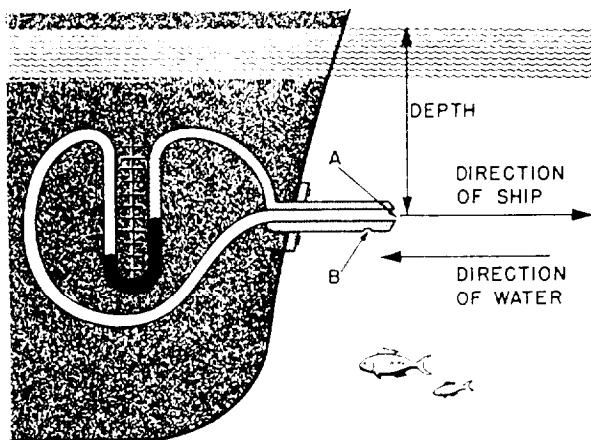

figure 10-4.-A pitometer log.
Figure 10-4 shows a schematic drawing of a pitometer log. It consists of a double-wall tube that sticks out forward of the ship’s hull into water that is not disturbed by the ship’s motion. In the tip of the tube is an opening (A). When the ship is moving, two forces or pressures are acting on this opening: (1) the hydrostatic pressure caused by the depth of the water above the opening and (2) a pressure caused by the push of the ship through the water. The total pressure from these two forces transmits through the central tube (shown in white on the figure) to the left-hand arm of a manometer.